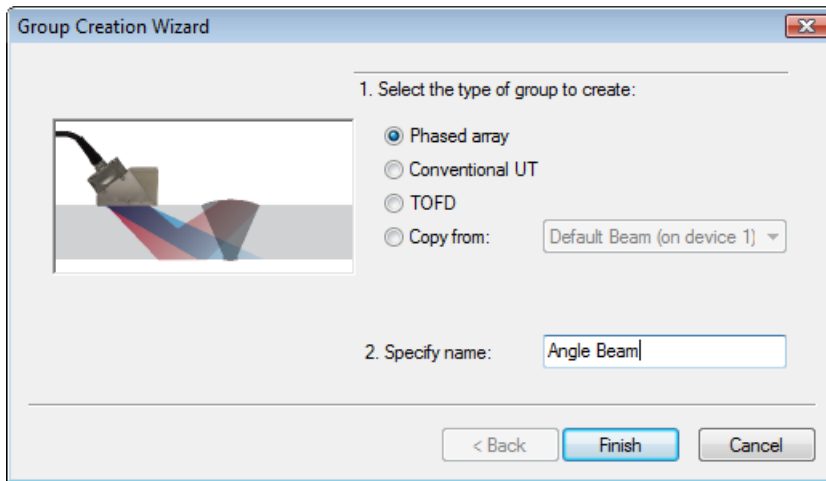

Figure 4-5 The Group Creation Wizard dialog box
2. In the **Group Creation Wizard** dialog box that appears (see Figure 4-5 on page 232):